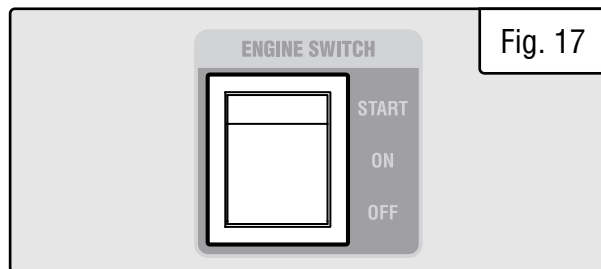

Fig. 17
6. Push the engine switch (Fig. 17) to the OFF position.